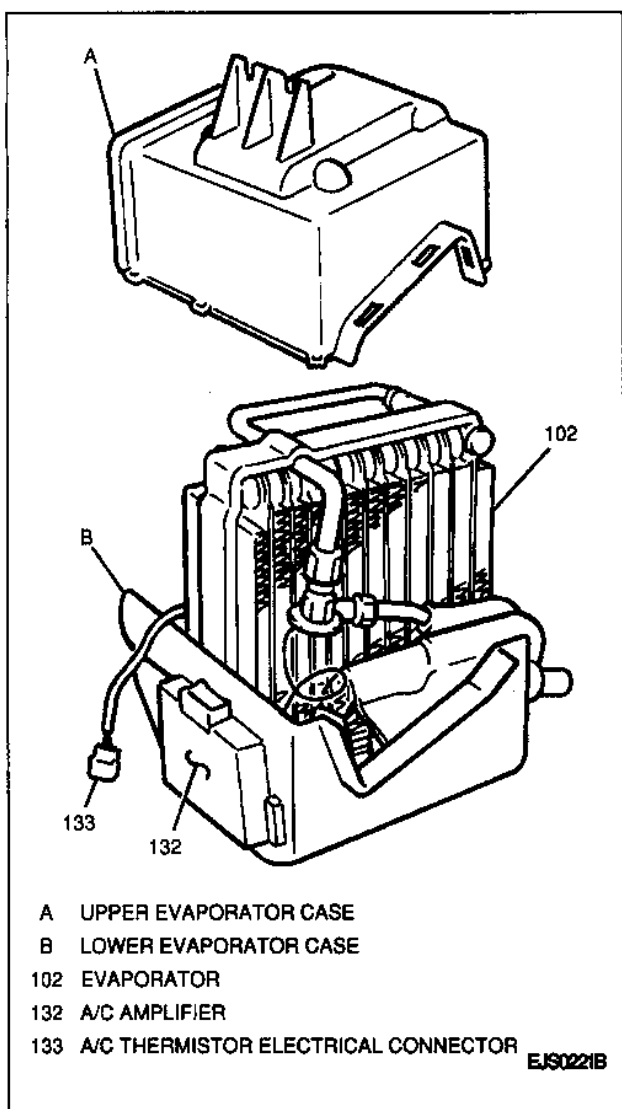

Figure 25—Separating Evaporator Case
1. Separate upper and lower case halves by disengaging five retaining clips and one screw (Figure 25).
Figures 25 and 27
2. Separate upper and lower case halves by disengaging retaining five clips and one screw (Figure 25).
2. Separate upper and lower case halves by disengaging five retaining clips and one screw (Figures 25).